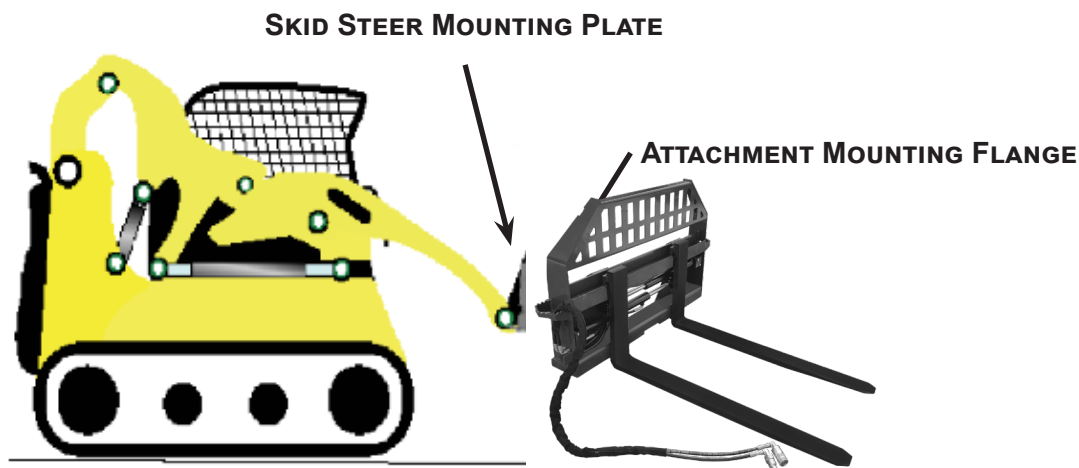

FIGURE 4.2A - SKID STEER MOUNTING PLATE TO ATTACHMENT MOUNTING FLANGE
2. Drive the skid steer to the attachment plate and tilt the skid steer coupler forward and hook the top edge of the skid steer quick attach mechanism under the lip of the attachment plate. See figure 4.2a below.
3. Slowly raise and tilt back the skid steer mounting plate, moving upward until the attachment plate is flat against the skid steer quick attach mechanism. See figure 4.2a below.